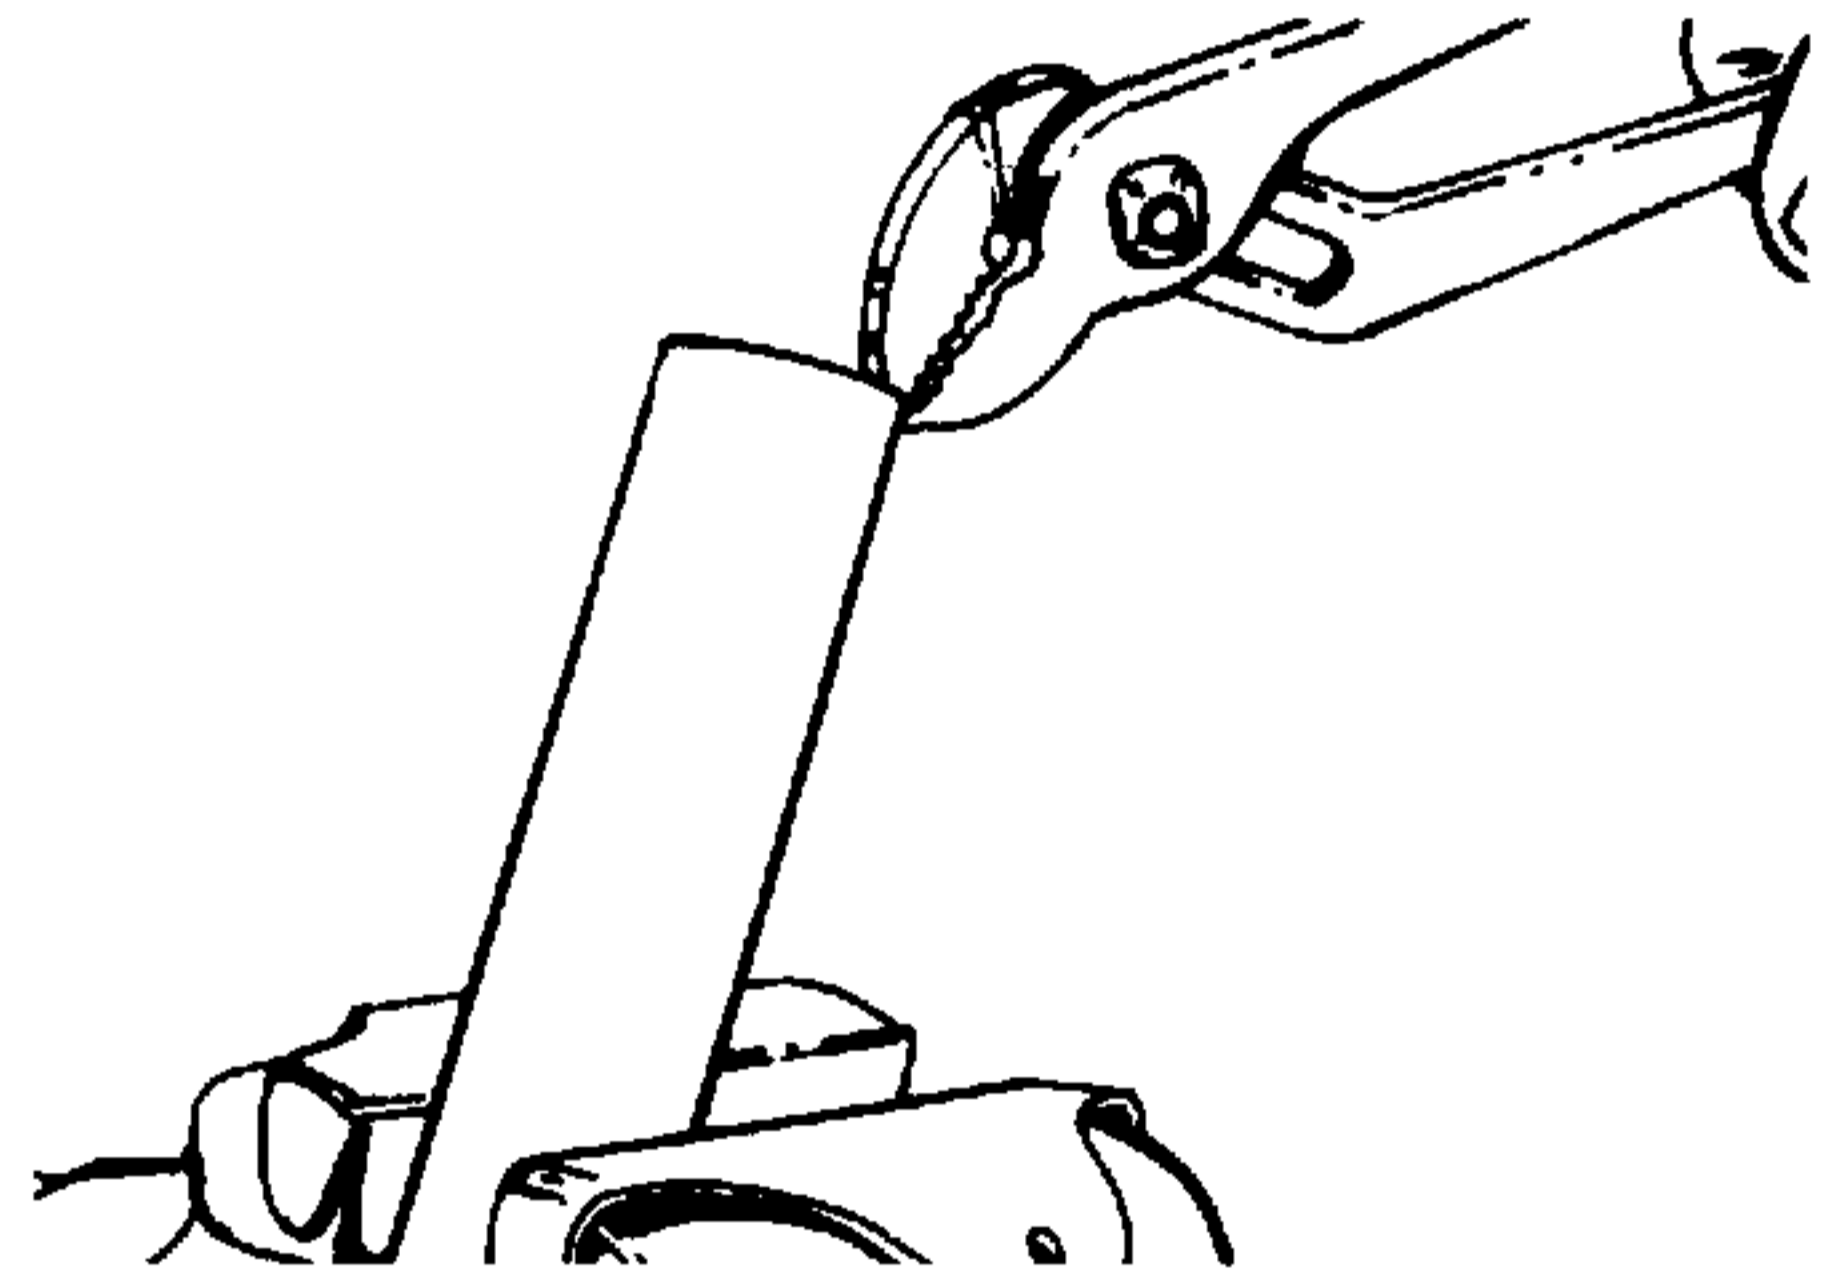

Figure 4-41. Uncrimping the Tube.
49. If the bearing (36) is to be replaced, place the upper cover and tube assembly (35) in a vise with the vise jaws clamping firmly on the tube without deforming the tube. Using an appropriate type of pliers, uncrimp or relieve the two crimped areas on the bearing end of the tube. Remove bearing using a bearing or seal type puller and discard the bearing. Set the upper cover and tube aside to await reassembly. See Figures 4-41 and 4-42.